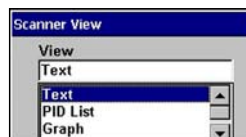

Figure 5-25 Sample Scanner View menu
2. Press **Y/✓** to display a drop-down list (Figure 5-25).